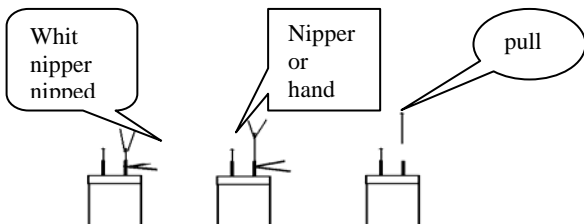

Fig.2 Replacing probes
8. Let special people replacing probes, otherwise one may snap the wire inside.(Fig.2)